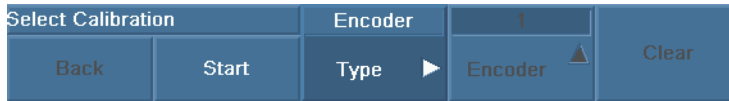

Figure 10-12 The Select Calibration step Encoder parameter
7. *Optional:* When a probe is equipped with two active encoders, select the encoder to calibrate. Probes for raster scans have two encoders. Choose **Encoder = 1** or **2** (see Figure 10-12 on page 204).